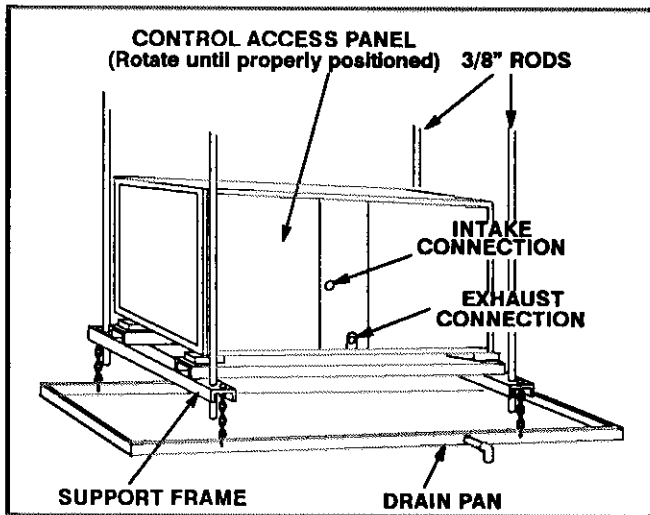

FIGURE 10
- 5- Mount unit on support frame and slide six isomode pads into place between cabinet and frame as shown in figure 10. Unit must be level to ensure proper coil drainage. Replace blower if it was removed during hoisting.
- 7- Hang drain pan below support frame as shown in figure 10.